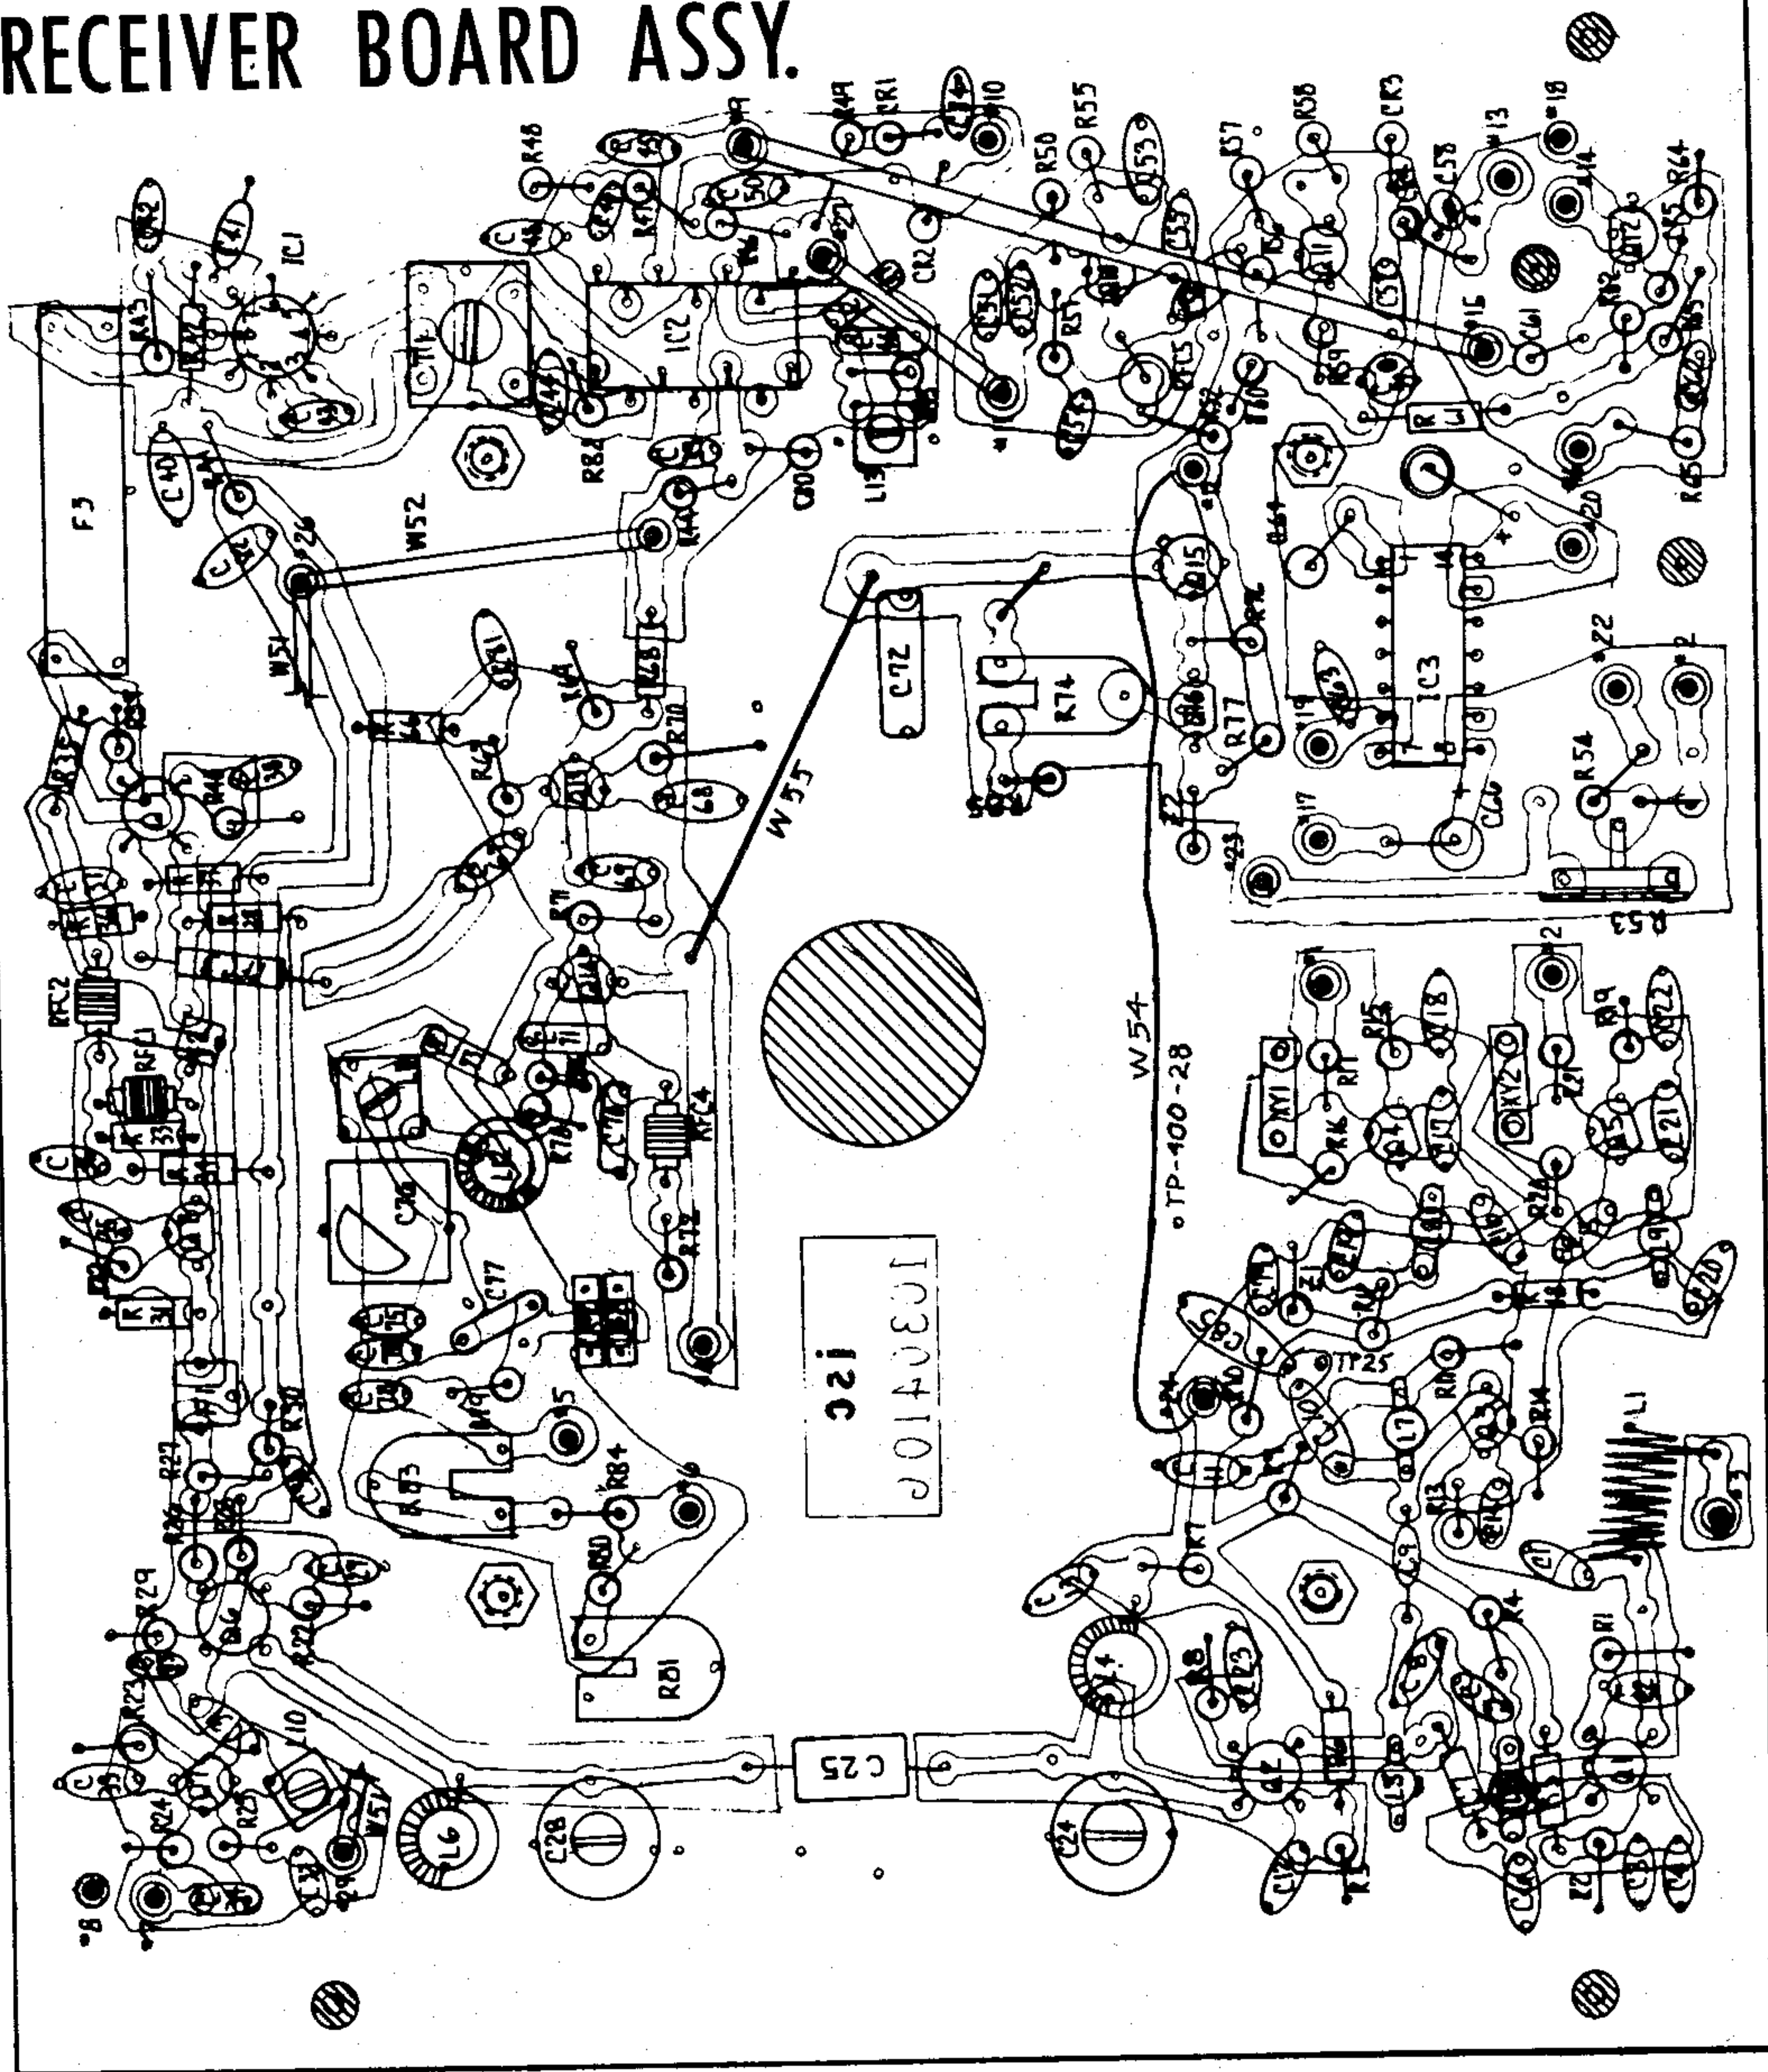

FIGURE 3
- (1) Actuate power to receiver by advancing SQUELCH control clockwise just past the switch detent. Observe that panel and meter illumination is activated.
- (2) Adjust VOLUME to a comfortable noise level. Knob on VOLUME Control should be in the "PUSHED IN" position.
- (3) Select a frequency on which signals would be likely to be received—for instance "52" (146.52) MHz) in most areas.
- (4) With no signal being received, the DISC Meter should be MID-SCALE (An internal control is available for setting this condition if required). When a signal is received, the DISC Meter should be set to MID-SCALE with the 100 KHz tune control.
- (5) With no signal being received, the SQUELCH control can be advanced clockwise to the point where audio is just silenced. At this setting a signal as weak as .1 microvolt will activate the audio.
- (6) When several active channels exist in the users area he can best familiarize himself with the RECEIVER CHANNEL CRYSTIPLEXER controls by "dialing-up" each of these channels such as the popular "76," "82," "88," etc. It will normally be possible to preset any channel in the absence of a signal and have negligible tuning error when a signal appears. Exact tuning, can, of course, be accomplished in the presence of a signal by using the DISCRIMINATOR meter.
- (7) In the event the DISCRIMINATOR Meter reads either side of "Zero Center" in the absence of a signal it should be rezeroed with the internal control R 53 located near the rear edge of the receiver P/C Board which may be readily accessed by removing the botton cover from the FM-27B. See Figure 3